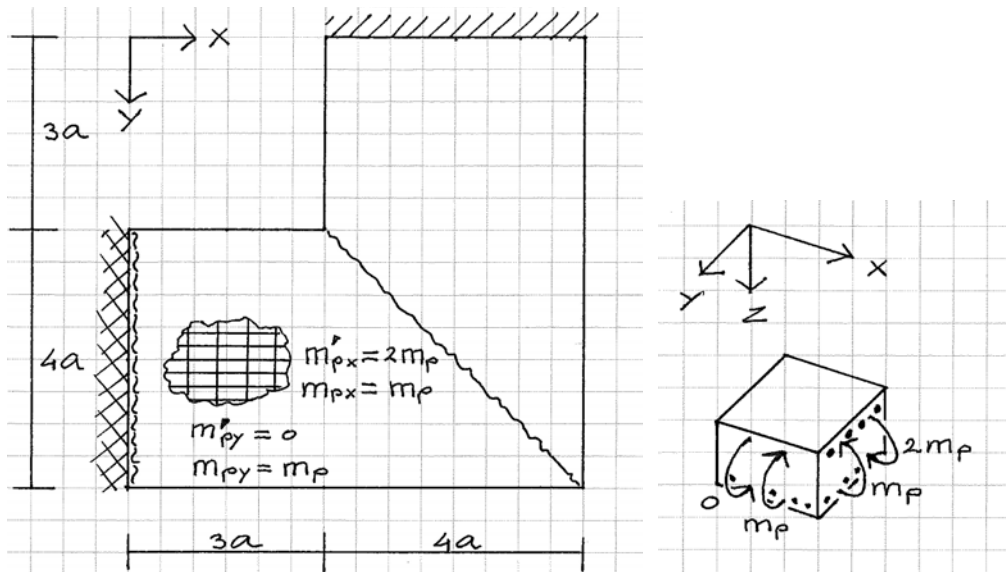

Figure 5. Plate dimensions, reinforcement and yield line pattern
A reinforced concrete plate has fixed and simply supported edges (Fig. 5). It carries an evenly distributed load  $q$ . The plate is homogeneous and orthotropic.
- Consider the yield line pattern of Figure 5. Determine an upper bound for  $q$  expressed in  $m_p$  and  $a$  (1.5 point).